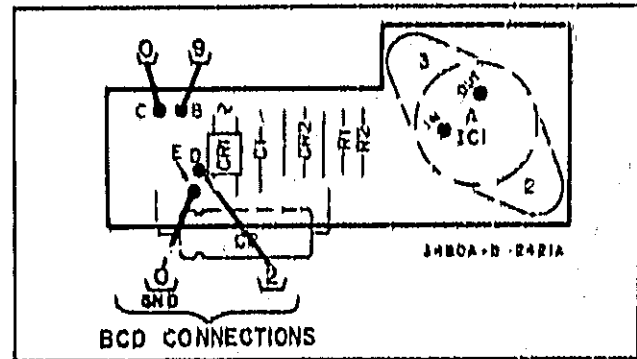

Figure 2-7. A9 Installation for BCD Option 004.
h. Locate unattached black wire and white wire in bundle along side of printed circuit compartment. Withdraw ends of these wires from bundle and connect to pins c and b on top side of A9 as shown in Figure 2-7.
j. Connect power cord and turn 3480C/D on. Check for  $+5\text{ V} \pm 5\%$  at point indicated in Figure 2-7. Ground for this supply is chassis ground. If voltage is correct, turn power off and disconnect power cord. If not, troubleshoot A9 assembly and input from power transformer.
m. Connect black (ground) and red (+5 V) wires from cable to A9 pins D and E as indicated in Figure 2-7.